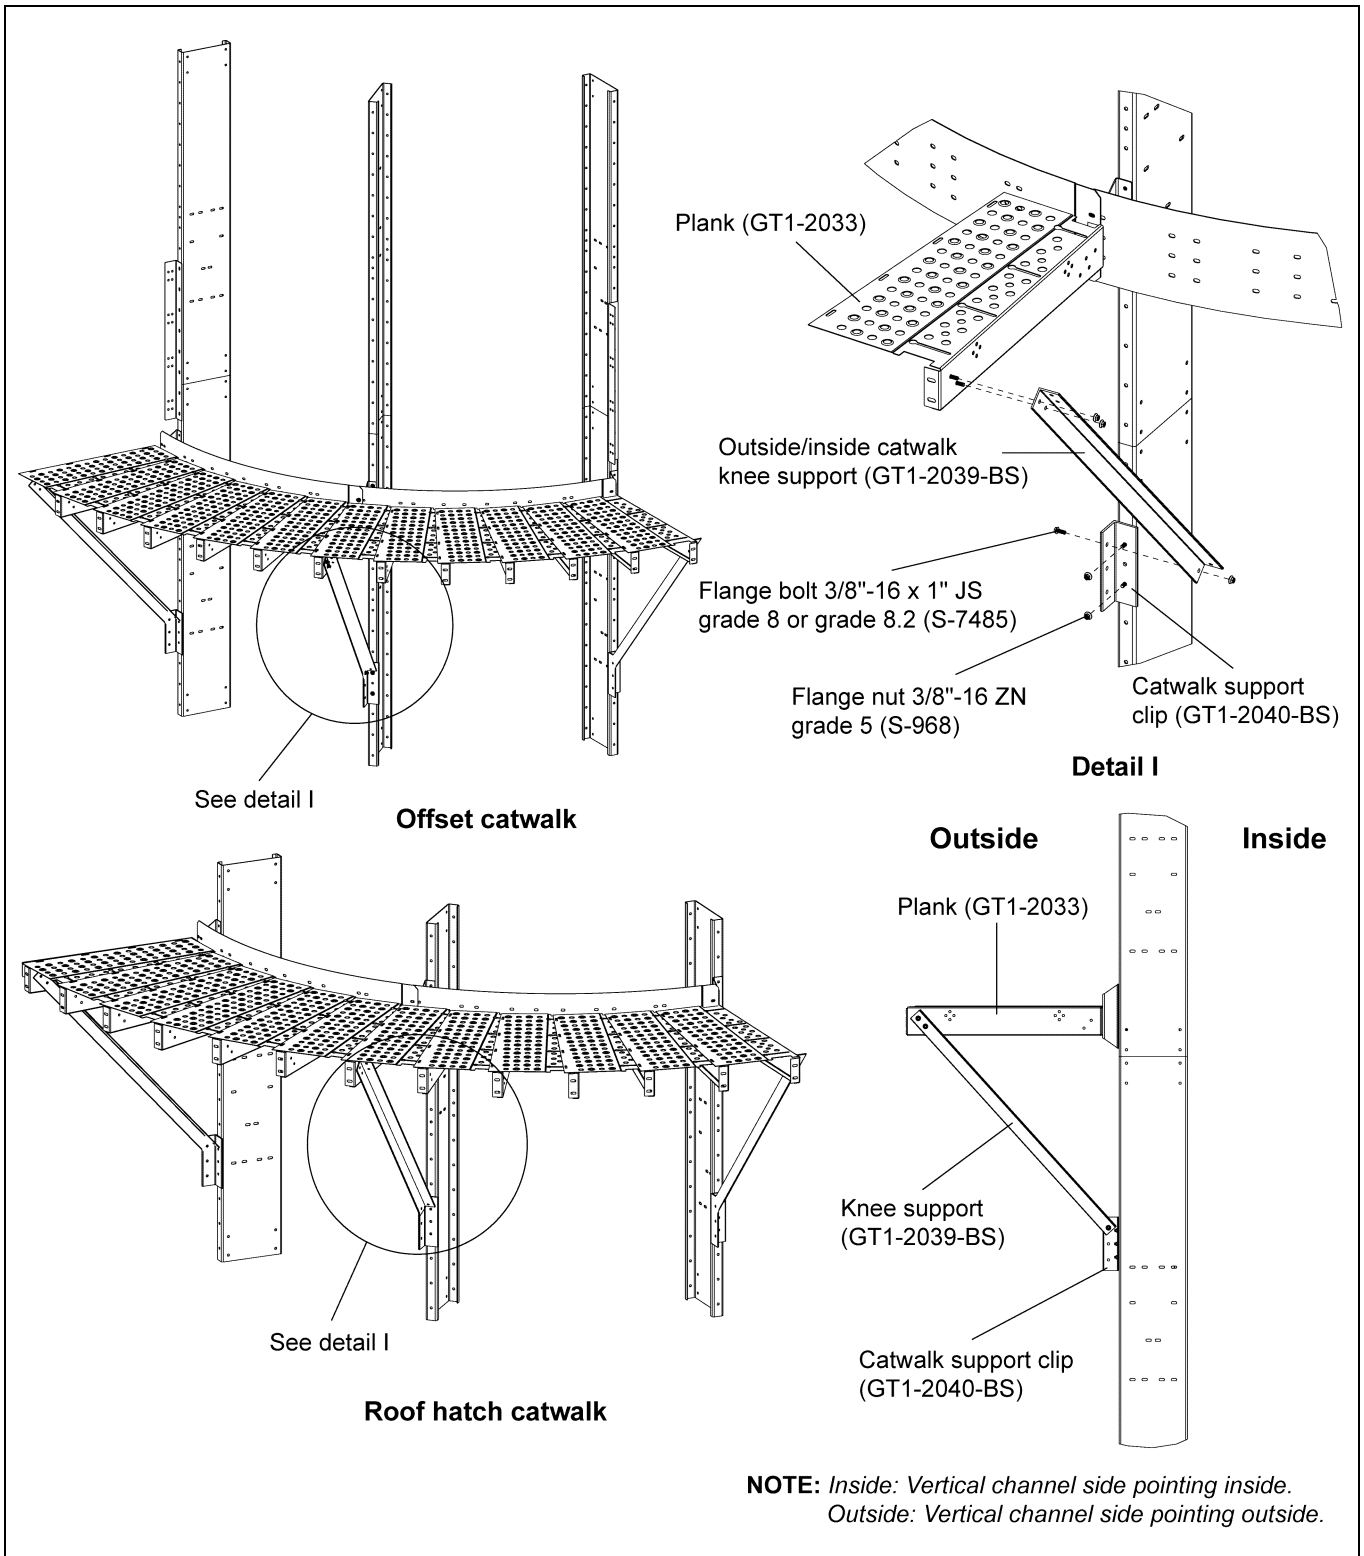

Figure 6S Knee Support (GT1-2039-BS) Installation for Offset and Roof Hatch Catwalks
1. Install the knee support (GT1-2039-BS) around the dryer between the catwalk support clips (GT1-2040-BS) and the planks (GT1-2033) using 3/8"-16 x 1" JS grade 8 or grade 8.2 bolts (S-7485) and 3/8"-16 ZN grade 5 nuts (S-968). (See Figure 6S.)